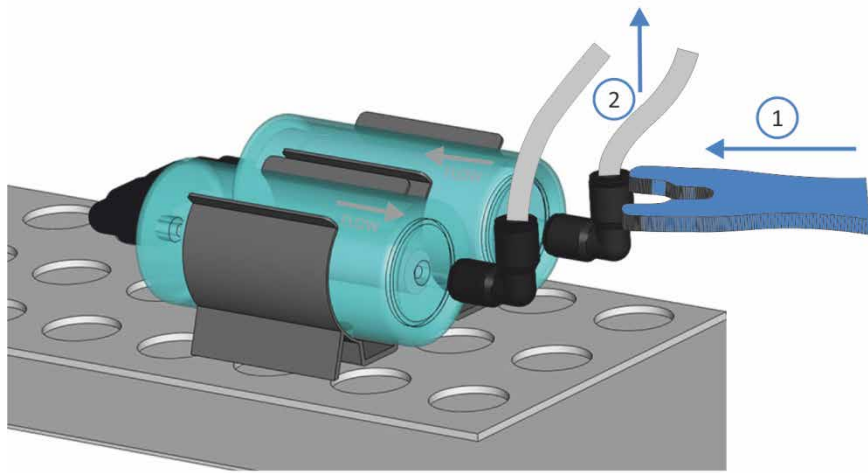

Figure 37: Unlocking an elbow fitting with the multitool
- a) On the two (push-in) elbow fittings on the gas filter assembly, push in the locking ring on each elbow fitting with the multitool (no. 1 in Figure 37). Leave the elbow fittings connected to the gas filter assembly.
- b) Carefully pull the gas tubes off from the elbow fittings (no. 2 in Figure 37).